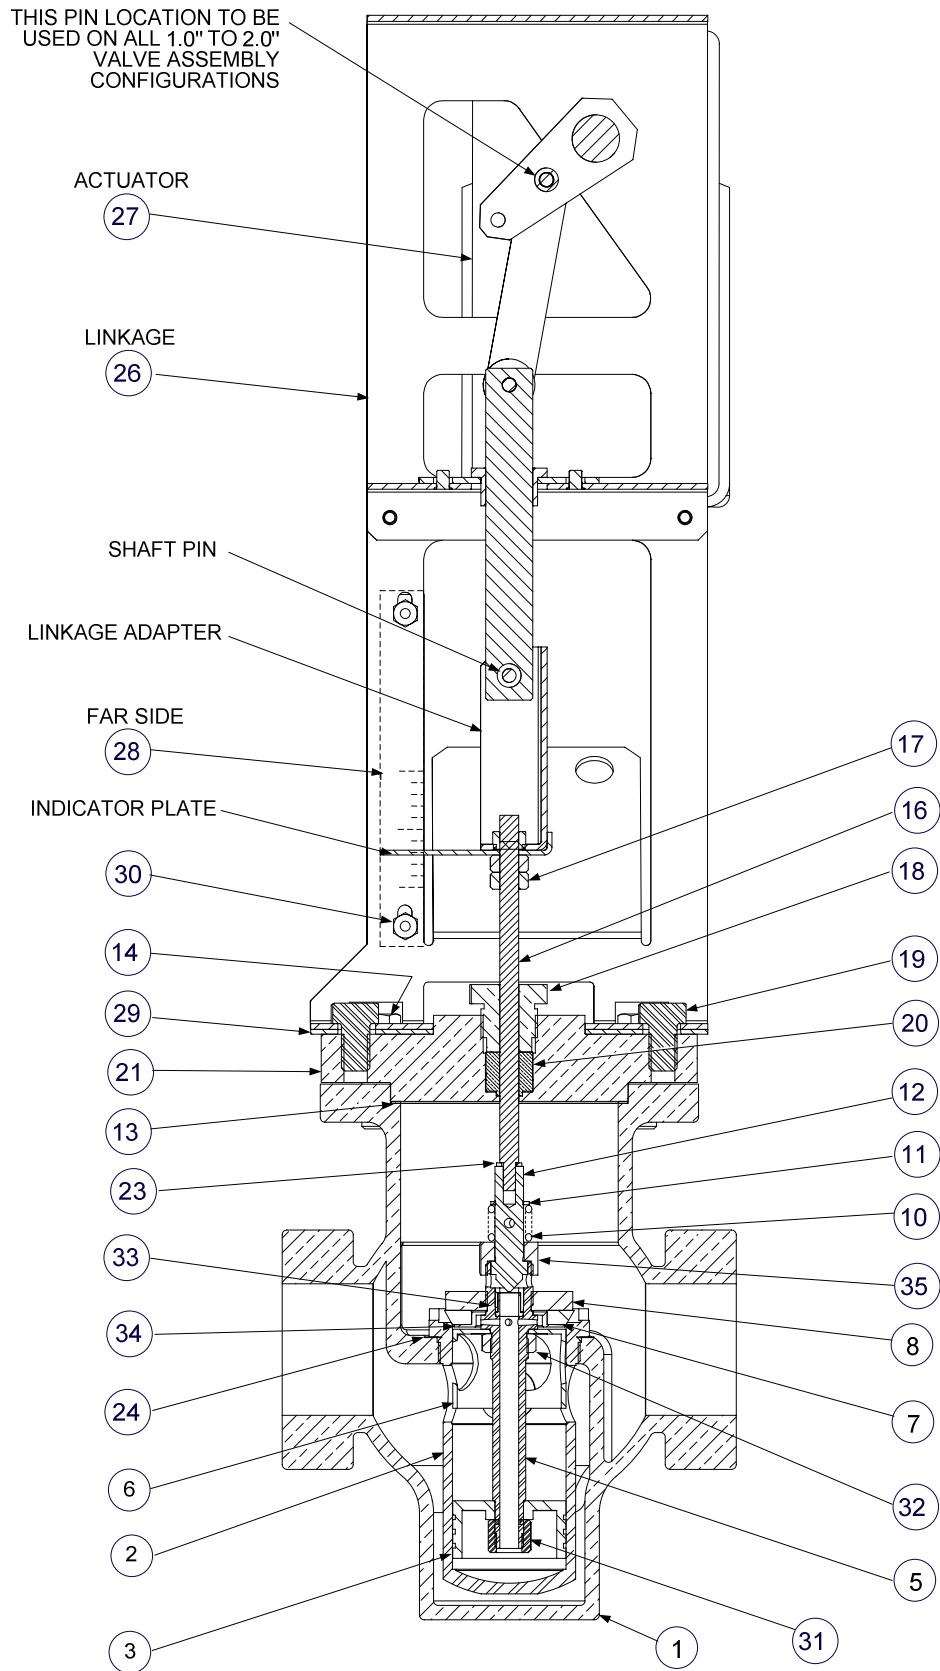

Figure 8-1. Valve Assemblies, Type CXT-E (Sizes 1.00" To 2.00")
Refer to Figure 8-1, or Figure 8-2 and proceed as follows:
- CM17. Completely remove the Actuator (27) and Linkage Assembly (26) from the Valve Body as described in steps CM1 through CM5.
- CM18. Refer to Figure 8-1 or Figure 8-2. It is strongly recommended that disassembly of the Valve be limited to only the steps necessary to restore the Valve to proper operation. However, the following steps cover complete disassembly, if necessary. When performing Valve disassembly, USE EXTREME CARE not to mar or scratch any surfaces. The following steps assume that the Actuator and Linkage Assemblies have already been removed from the Valve Body.
- CM20. Grasp the Lower Shaft (16) and carefully lift out the ENTIRE Shaft/Seat/Piston Assembly.
- CM21. For Control Valves, 1-inch through 2-inch (Figure 8-1), disassemble the Shaft/Seat/Piston assembly in the following order:
- Lock Washer (23)
- Retaining Ring (11)
- Pilot Spring (10)
- Valve Stem Retaining Nut (35)
- Lower Shaft (16) and Valve Stem (12)
- Retaining Disc (8)
- Disc Seat (7)
- Seat Retainer (34)
- Valve Plug Shaft (5)
- CM24. CLEAN ALL PARTS THOROUGHLY. ALL DIRT AND/OR SCALE MUST BE REMOVED from the outer surfaces of the Valve Plug Shaft (5) (Figure 8-1) or the Top Piston (6) and Bottom Piston (3) (Figure 8-2) and from the surface of the Valve Stem (12).
- CM25. Inspect the Valve Stem (12). If it is damaged or it does not seat properly on the Valve Seat (7), or does not move freely in the Valve Seat Retaining Disc (8), the Valve Stem (12), Pilot Spring Retainer (11) and Pilot Spring (10) must be replaced.
- CM26. Inspect the outer surfaces of the Valve Plug (5) or the Top Piston (6) and Bottom Piston (3). If they are scored or damaged so that they will not move freely up and down in the Seat Cage (2), the Valve Plug or Pistons must be replaced. Also see Step CM32.
- CM27. Inspect the Valve Seat (7). If it is worn so that it will not seat properly with the Seat Cage (2), with the Valve Stem (12), it must be replaced.
- CM28. THOROUGHLY clean and inspect the seating and inner surfaces of the Seat Cage (2). If the seating surface around the top of the Cage is worn or damaged so that the Valve Seat (7) will not seat properly, or if the inner surfaces of the Cage are scored or damaged so that the Valve Plug (5) or Pistons (3) and (6) will not move up and down freely, the Cage (2) must be replaced.
Refer to Figure 8-1 or Figure 8-2 when performing the following procedures.
- CM30. If the Seat Cage has been removed, place a NEW Seat Cage Gasket (24) on the seating surface of the Valve Body. Next, replace the Seat Cage (2) into the Valve Body (1), using the tool described in Step CM29. Make the Seat Cage tight.
- CM31. If disassembled or being replaced, reassemble the Top Piston (6) and Bottom Piston (3) onto the Valve Plug Shaft (5), using the Top Piston Retaining Nut (46) (1-inch through 2-inch Valves), and Bottom Piston Retaining Nut (50) or Bottom Piston Retaining Ring (4).
- CM32. For Control Valves, 1-inch through 2-inch, (Figure 8-1), reassemble the Valve Plug/Seat/Shaft assembly in the following order:
- Valve Plug (5)
- Valve Seat (7)
- Valve Stem (12) and Lower Shaft (16)
- Pilot Spring Retaining Clip (3)
- CM34. Holding the Lower Shaft (16), carefully replace the entire Shaft/Seat/Piston assembly into the Valve Body (1) and Seat Cage (2).
- CM35. Thoroughly clean the gasket surfaces of the Valve Body (1) and Valve Top (21) of all dirt and scale. If necessary, use a wire brush, emery or both.
- CM36. See Figure 8-1 or 8-2. Reassemble these parts in the following order: